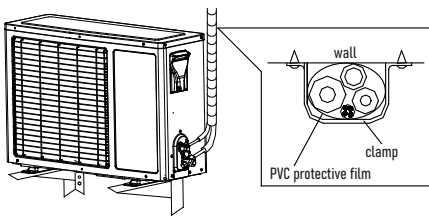

Figure 12
- Fasten the tubes on the wall with the special brackets (Fig. 12).